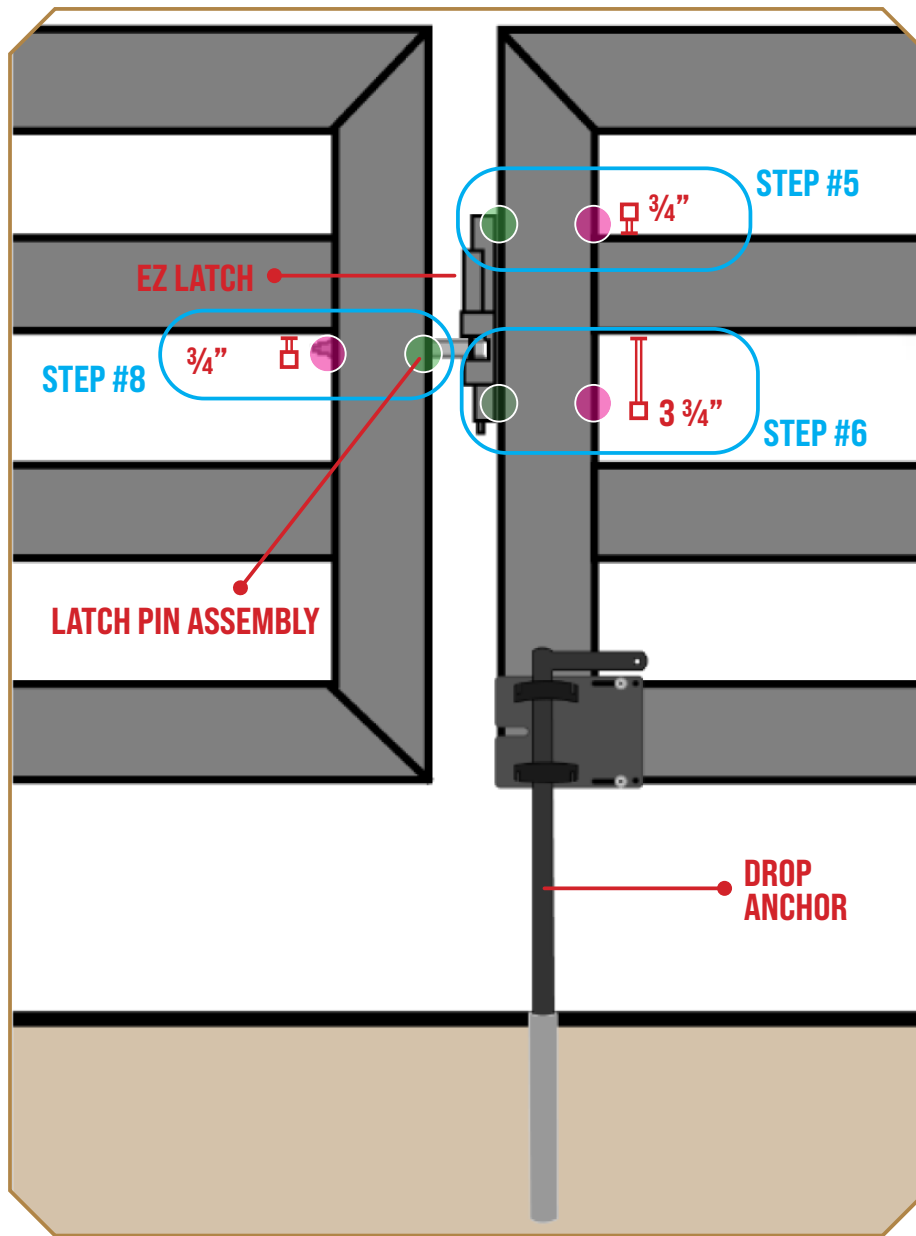

Figure 2
2. Drill three $\frac{21}{32}$ " holes (1 hole on the pin-gate; 2 holes on the ground-anchor gate) using a step drill. Reference the pink circles on Figure 2 for placement.
3. Drill three $\frac{13}{32}$ " holes on the outside face of both gates (1 hole on the pin-gate; 2 holes on the ground-anchor gate) using a step drill. Reference the green circles on Figure 2 for placement.